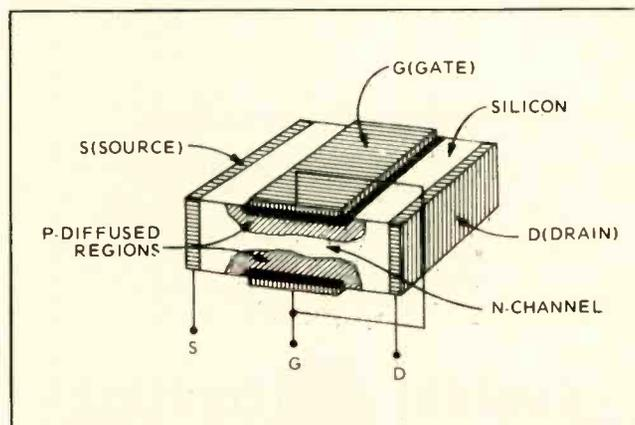

Fig. 12—Structural diagram of a junction-type field-effect transistor.
A junction-type FET is composed of an N-type silicon chip with electrodes on the two opposite ends, called source S and drain D. On the central part of this chip, P-type regions are diffused into the upper and lower sides; metallic contacts are made and tied together to make up the gate (G) electrode (Fig. 12). If the drain-source resistance of the device is connected across battery B1 through resistor RL (Fig. 13), there appears (proper polarity provided) a depletion region extending more toward the center of the chip with an increasingly higher negative gate potential referred to source. The result is a "pinch" of the drain-source current, due to the electrostatic gate field. The gate, therefore, acts to control current in a way somewhat similar to the grid control of an electron tube, though the operating principles are entirely different.